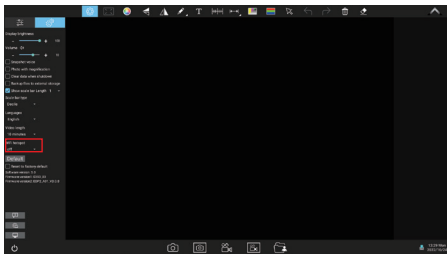

Figure 1
- (1) Click the "  " setting icon in the upper left corner of KoPa WiFi Lab AO;
- (2) Click the icon "  " ;
- (3) Click the icon "  " at the bottom left, Open WLAN (as in Figure 1 and 2);